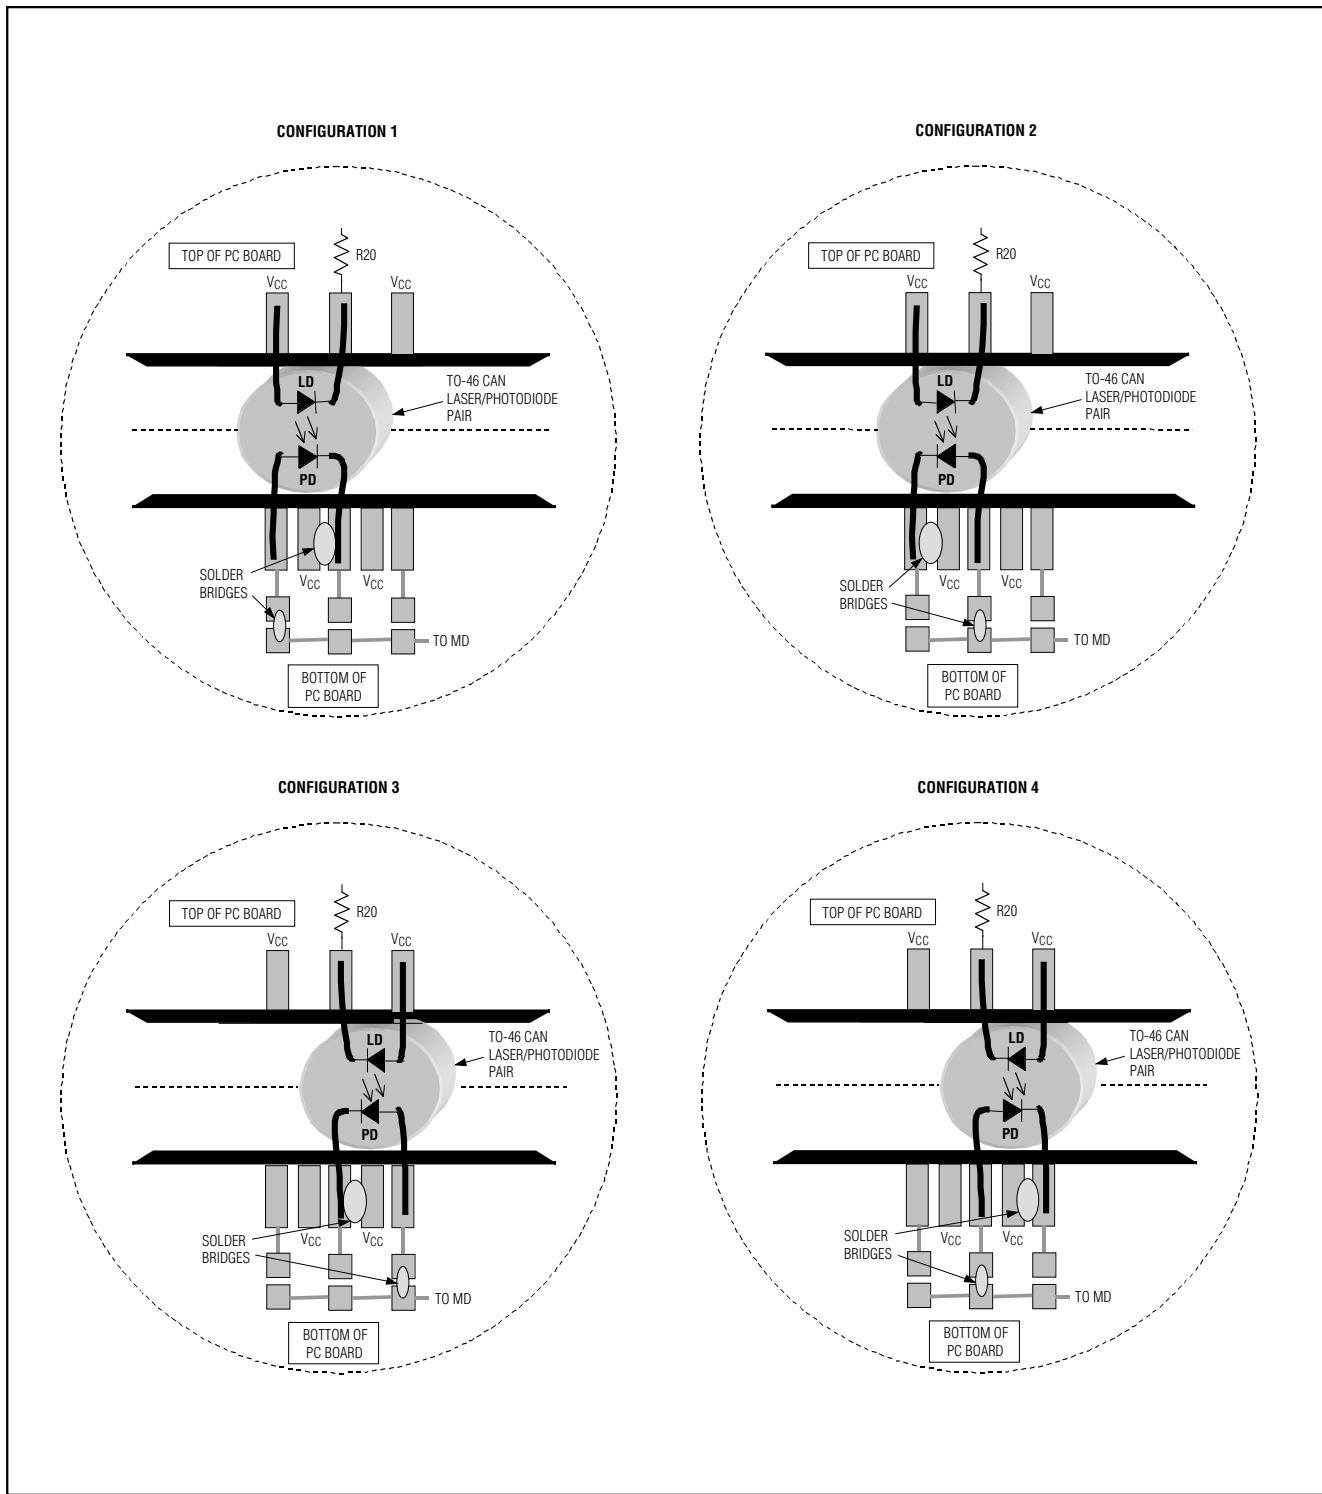

Figure 1. Attachment of Laser Diode/Monitor Diode to MAX3867 EV Kit
- 3) The EV kit is designed to allow connection of a variety of possible laser/monitor diode pin configurations. Connect a TO-header-style laser with MD (Figure 1) as follows:
- Connect the monitor photodiode to two of the five pads on the bottom (solder) side of the PC board, directly below the laser diode pads. Three of these pads (the middle and outside positions) are initially not connected. The other two pads are connected to VCC. Solder the anode and cathode of the monitor photodiode to any two of the three pads that are not connected. Then connect the anode to the MD pin by shorting the corresponding solder jumper (Figure 1). Connect the cathode to VCC by using solder to bridge to an adjacent VCC pad.